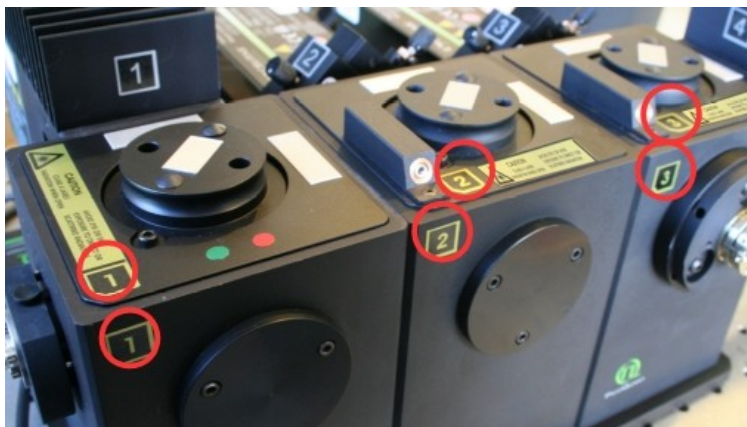

Fig. 5.1: Correct filterholders in corresponding towers are indicated by numbers
- When using the Multi Channel Detection Unit with SPAD detectors, special filter holders for SPADs are used for the corresponding tower. Which filter holders can be used for which tower is indicated on the tower and at the filter holders by specific numbers (see Fig. 5.1).